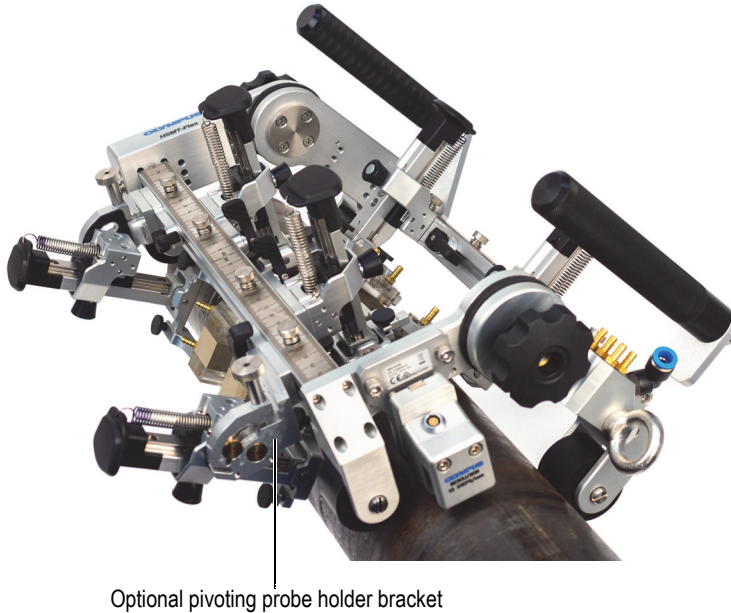

Figure 2-5 Optional pivoting probe holder bracket
6. Use the optional pivoting probe holder bracket (part number: Q7750226) when the configuration of the HSMT-Flex scanner requires probe holders outside the frame, on pipe diameters smaller than 305 mm (12 in.) (Figure 2-5 on page 40). To rotate the pivoting probe holder, loosen the thumb screw on the top of the rotating bracket and pivot the probe holder until the yoke is perpendicular with the probe holder. The pivoting bracket features predefined angle positions separated by lobes. Make sure to unscrew the thumb screw enough to enable a smooth rotation.